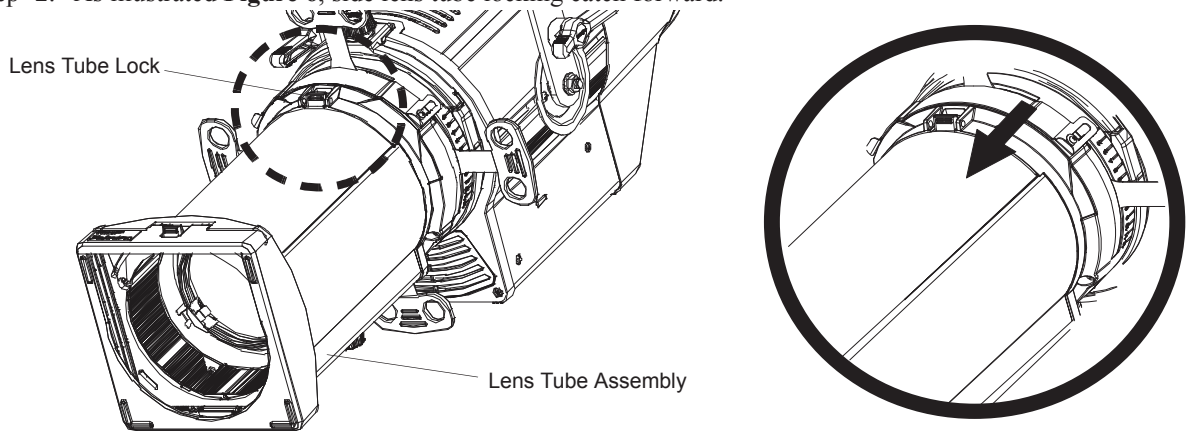

Figure 6: Lens Tube Assembly Removal - Lens Locking Catch
- Step 2. As illustrated **Figure 6**, side lens tube locking catch forward.